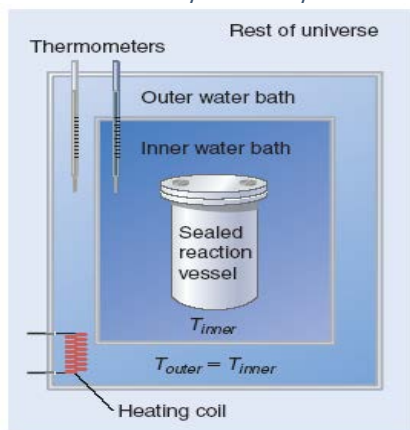

Fig. 2.3 An isolated composite system.
* In Fig. 2.3, $\Delta U_{original} = q + w = q < 0$ and $\Delta U_{composite} = 0 + 0 = 0$.
- In Fig. 2.3, an exothermic chemical reaction that is carried out in a rigid sealed container with diathermal walls. During the reaction, heat flows out of the system, and the temperature of the inner water bath increases to T_f . Using an electrical heater, the temperature of the outer water bath is increased so that at all times, at this point $\Delta T = 0$, $w = 0$, $\Delta U = 0$ thus, $T_{outer} = T_{inner}$